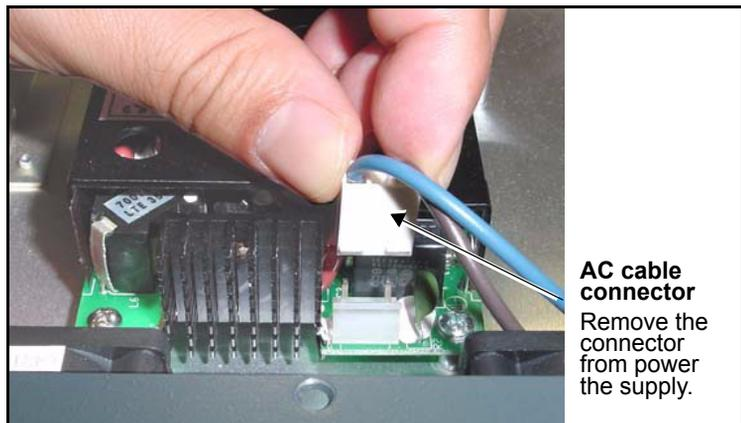

Figure C-27. Removing AC Cable from Power Supply
4. Disconnect the polarized AC cables from the power supply. (See Figure C-27.)